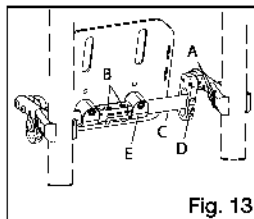

Fig. 13
- a. Remove two 6mm screws (Fig. 13:A) from each side of the footrest frame clamp.
- a. Loosen the two 6mm screws (Fig. 13:B) on the center clamp.
- b. Slide the tube (Fig. 13:C) out of the center clamp.
- c. Remove the two 6mm screw (Fig. 13:D) from the mount bracket.
- d. Slide the tube (Fig. 13:C) out of the mount bracket.
- e. Replace the tube (Fig. 13:C) with one of the new tubes from the growth kit.
- g. Reinsert the 6mm screw (Fig. 13:D) through the mount bracket and tube (Fig. 13:C). Retighten and repeat on the opposite side ensuring the same holes are used on both sides.
- h. Insert the tube (Fig. 13:C) through the pivot bracket (Fig. 13:E) and into the center clamp. Repeat on the opposite side.
- j. Replace the two 6mm screws (Fig. 13:A) into the clamp on each side.
- m. Select the desired position and retighten the two 6mm screws (Fig. 13:B) to 80 in./lbs.